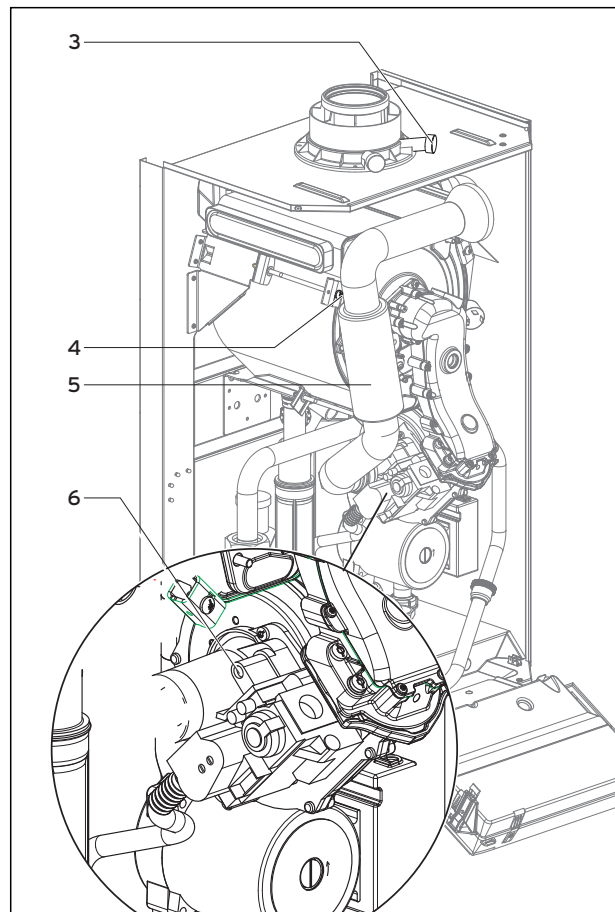

Fig. 5.4 Carrying out a CO₂ measurement, carrying out an air ratio setting (gas setting)
- Measure the level of CO₂ content at the exhaust-fume test outlet (3) (Fig. 5.4). Check the reading against the corresponding value in tab. 5.2.
- If the exhaust-fume setting requires adjustment, remove the screw (4) and swivel the air suction pipe (5) forwards through 90° (Fig. 5.4). DO NOT remove the air suction pipe.
- Adjust the corresponding setting as required by turning the screw (6) (fig. 5.4).